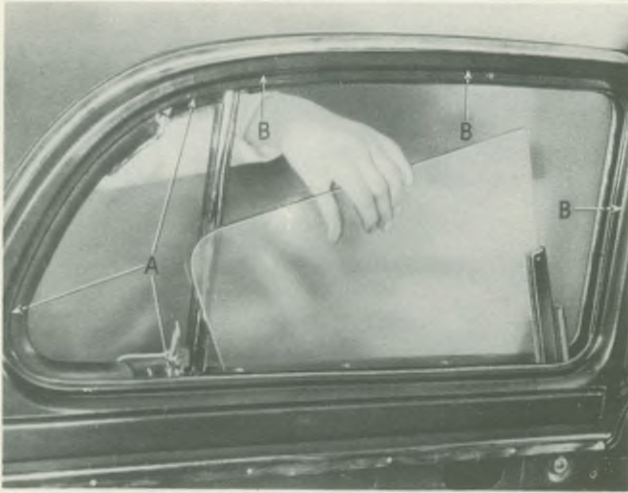

Fig. 12. Removing drop light from rear door body
5. Remove self-tapping screws (their approximate position is indicated at "B" in Fig. 12) which are embedded in the felt in each drop light channel. If difficulty is found in locating these, peel out the felt from the channel until resistance indicates the presence of a screw.
8. The drop light can now be lifted out, as shown in Fig. 12, after turning it sideways inside the door body so that the regulator channel is adjacent to the hinge pillar.
11. The vent light assembly can now be removed as a complete unit. It is retained by three screws, the positions of which are indicated at "A" on Fig. 12. These screws, located in the moulded rubber surround, are only accessible